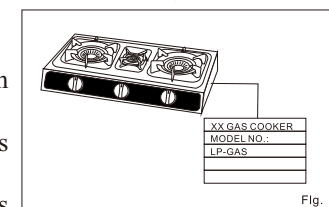

Fig. 1
- Do not use a gas other than that which is specified on the label attached. (Fig. 1)